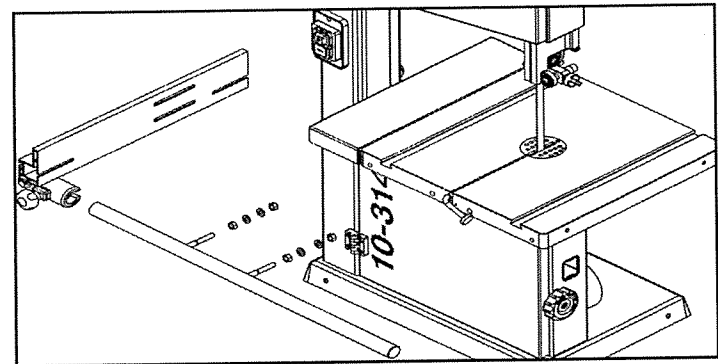

FIGURE 6
4. Lock the Fence Carrier in place on the rail by tightening the fence Lock Knob (#1F), which is located on the front of the carrier. FIG. 6.